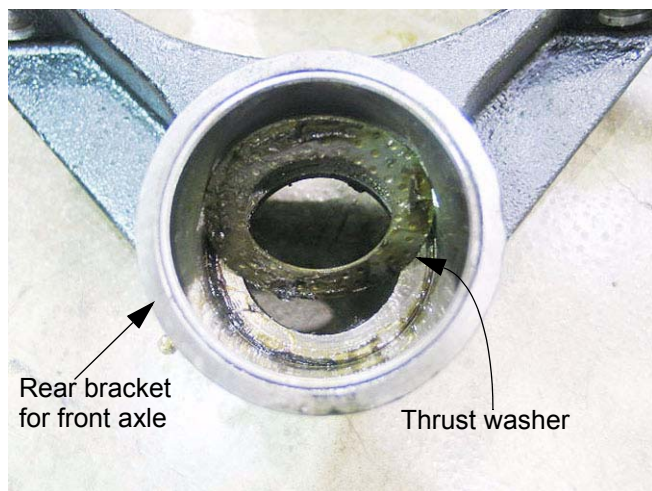

Figure 4.2
4.2. Confirm that the thrust washers are in place in both front axle brackets. See Figure 4.2.